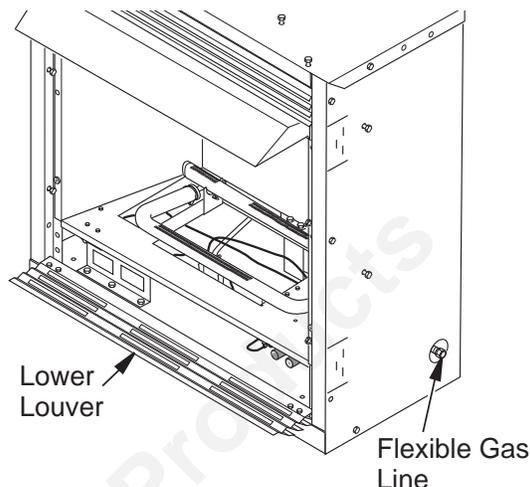

Figure 14 - Flexible Gas Line Location (Remote-Ready Unit Shown)
1. Open lower louver (see **Figure 14**).